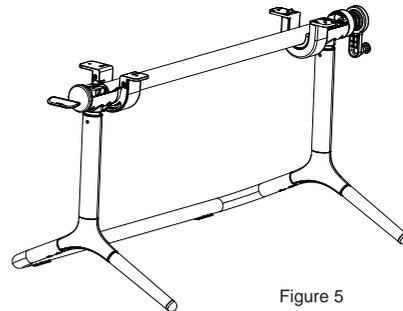

Figure 5
Step 6: The assembled stand is shown in Figure 5.